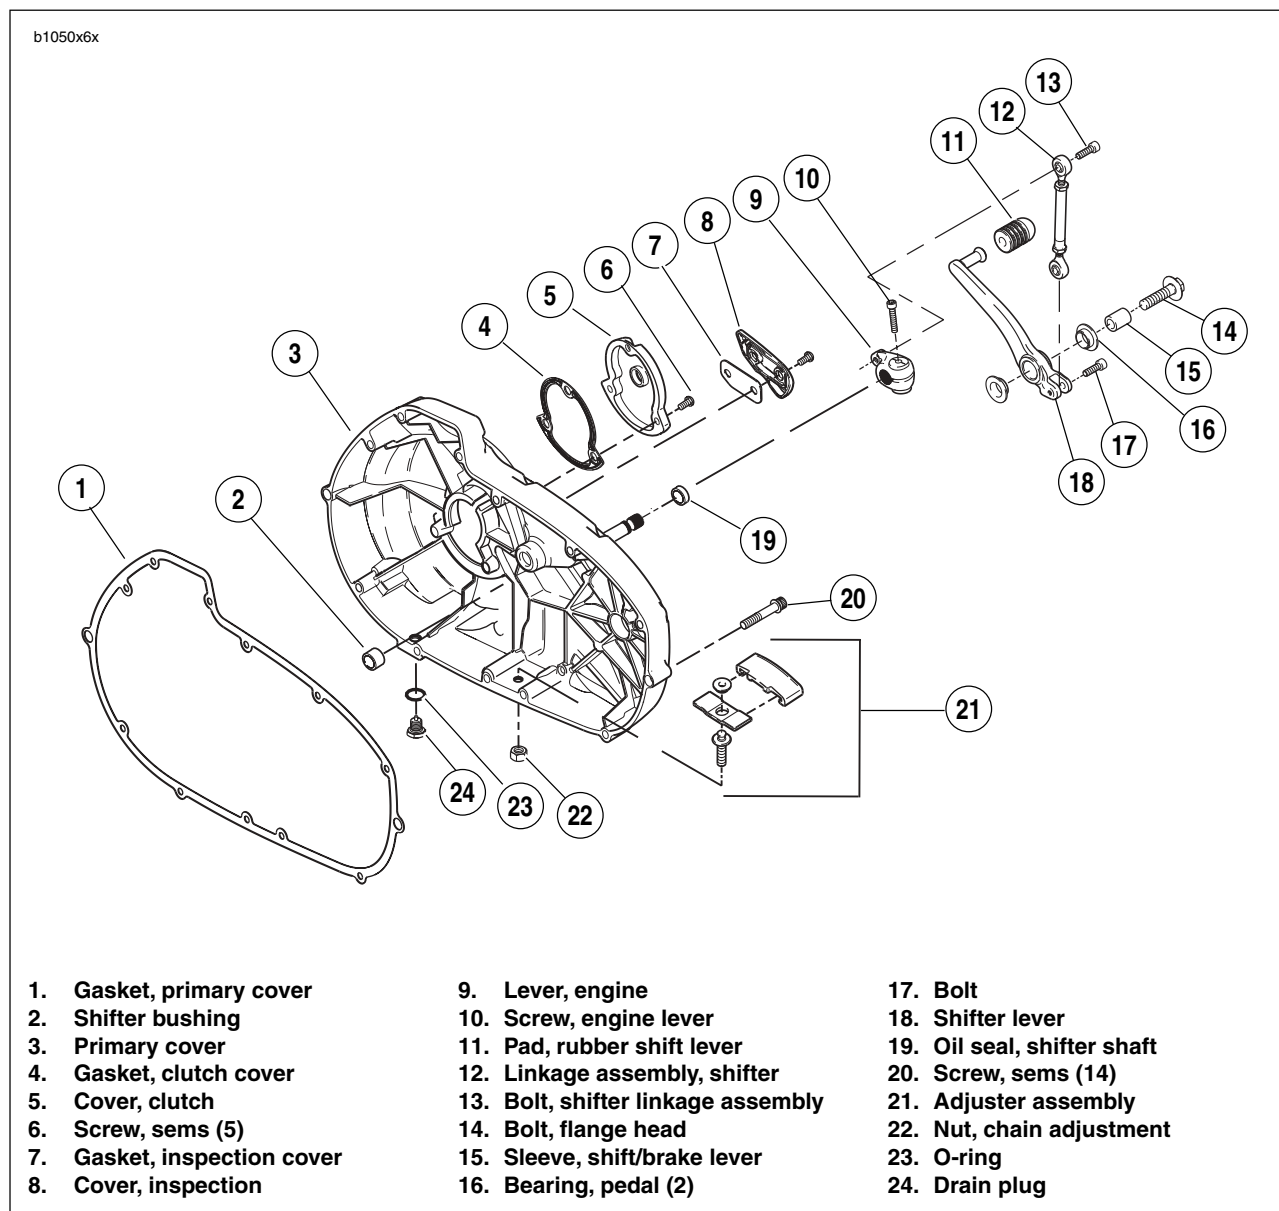

Figure 6-1. Primary Cover, Primary Chain Adjuster and Shifter Assembly
5. See Figure 6-1. Install **new** shifter lever oil seal.